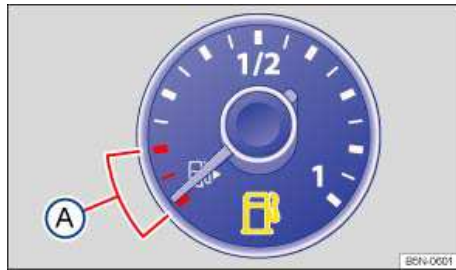

Fig. 161 Fuel gauge in the instrument cluster: A Refuel warning zone.
**i** The small arrow next to the gas pump symbol in the fuel gauge ⇒ fig. 161 shows the side of the vehicle with the fuel filler flap.